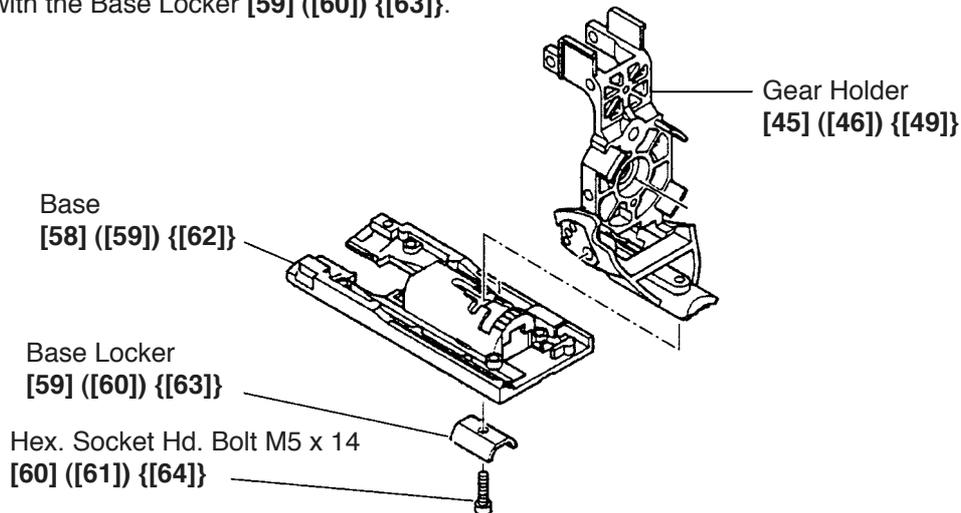

Fig. 2
(1) Disassembly of the Base **[58]** **{[59]}** **{[62]}** (Fig. 2)